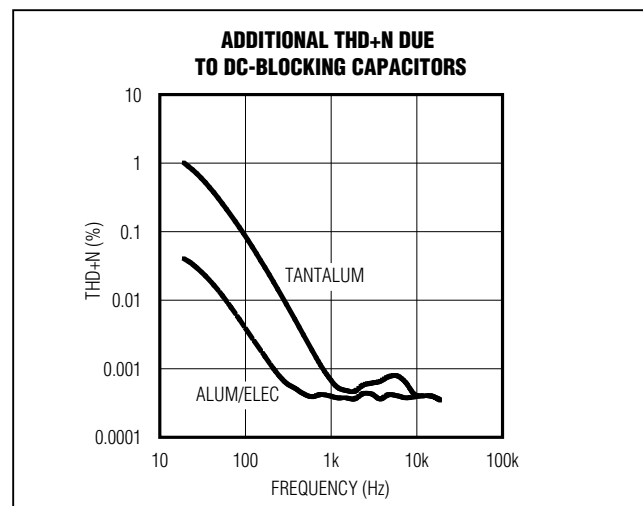

Figure 4. Distortion Contributed by DC-Blocking Capacitors
- The voltage coefficient of the capacitor, the change in capacitance due to a change in the voltage across the capacitor, distorts the audio signal. At frequencies around the -3dB point, the reactance of the capacitor dominates, and the voltage coefficient appears as frequency-dependent distortion. Figure 4 shows the THD+N introduced by two different capacitor dielectrics. Note that around the -3dB point, THD+N increases dramatically.